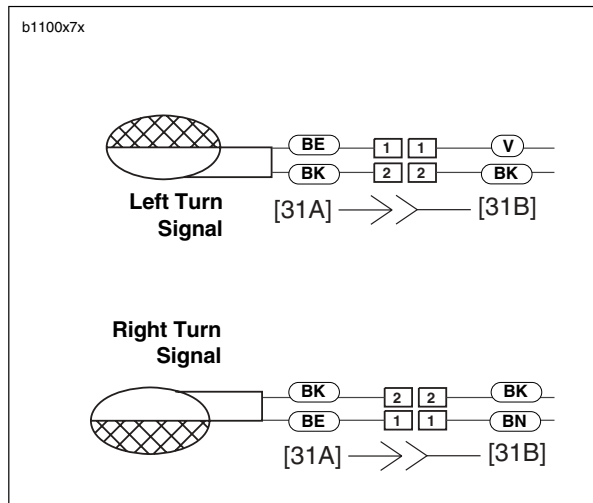

Figure 7-51. Front Turn Signal Connections
1. See Figure 7-51. Disconnect bullet connectors on turn signal wires.
2. Install turn signal (1) using lockwasher (2) and fastener (3). Tighten fastener to 25-28 **in-lbs** (2.8-3.2 Nm).
3. Attach bullet connectors on turn signal wires as shown in Figure 7-51.